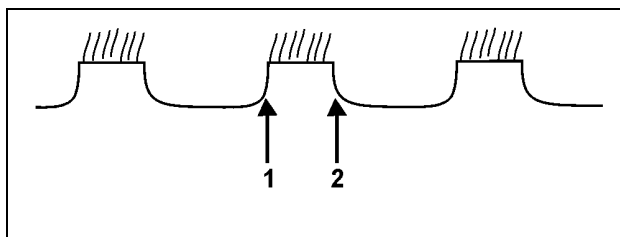

Fig. 2
- 1.Scheibenreihe nach rechts verstellen und erneut kontrollieren (Fig. 2):
- (1) Cutting edge of the 1st disc row
(2) Cutting edge of the 2st disc row.
- Adjust the 1st disc row to the right hand side and check again (Fig. 2):